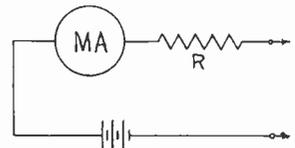

Fig. 3.
1. Connect the voltmeter (or milliammeter with any suitable series resistor) to a battery as shown in Fig. 3. Record the reading. This reading may be recorded from any voltage or current scale on the meter.
The first thing to do is to select by experiment a battery voltage, and a resistor R if necessary as shown in Fig. 3, which will give a deflection that is limited on the scale of the meter. The resistor R may or may not be necessary, depending on the amount of resistance already present in the meter.